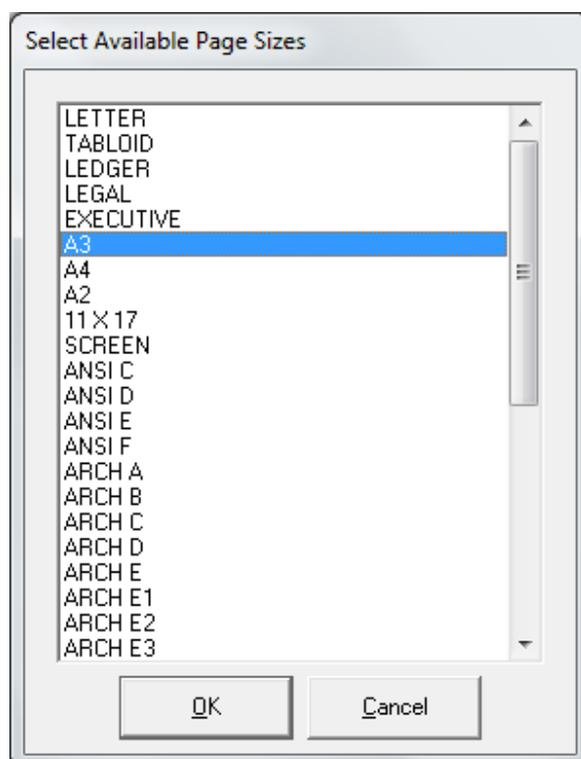

Fig 1-8
7. Alongside the **Available Page Sizes** field, click [Add] to add additional paper sizes available on the printer (Fig 1-8). Highlight the additional sizes and click [OK].